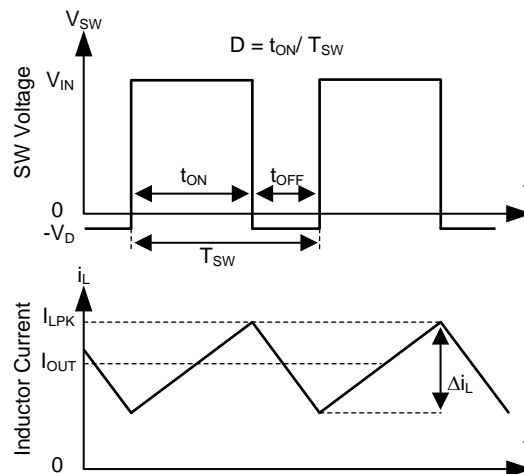

Figure 13. SW Node and Inductor Current Waveforms in Continuous Conduction Mode (CCM)
The following operating description of the LMR23615-Q1 refers to the *Functional Block Diagram* and to the waveforms in Figure 13. The LMR23615-Q1 is a step-down synchronous buck regulator with integrated high-side (HS) and low-side (LS) switches (synchronous rectifier). The LMR23615-Q1 supplies a regulated output voltage by turning on the HS and LS NMOS switches with controlled duty cycle. During high-side switch ON-time, the SW pin voltage swings up to approximately V_{IN} , and the inductor current i_L increase with linear slope $(V_{IN} - V_{OUT}) / L$. When the HS switch is turned off by the control logic, the LS switch is turned on after an anti-shoot-through dead time. Inductor current discharges through the LS switch with a slope of $-V_{OUT} / L$. The control parameter of a buck converter is defined as duty cycle $D = t_{ON} / T_{SW}$, where t_{ON} is the high-side switch ON-time and T_{SW} is the switching period. The regulator control loop maintains a constant output voltage by adjusting the duty cycle D . In an ideal buck converter, where losses are ignored, D is proportional to the output voltage and inversely proportional to the input voltage: $D = V_{OUT} / V_{IN}$.